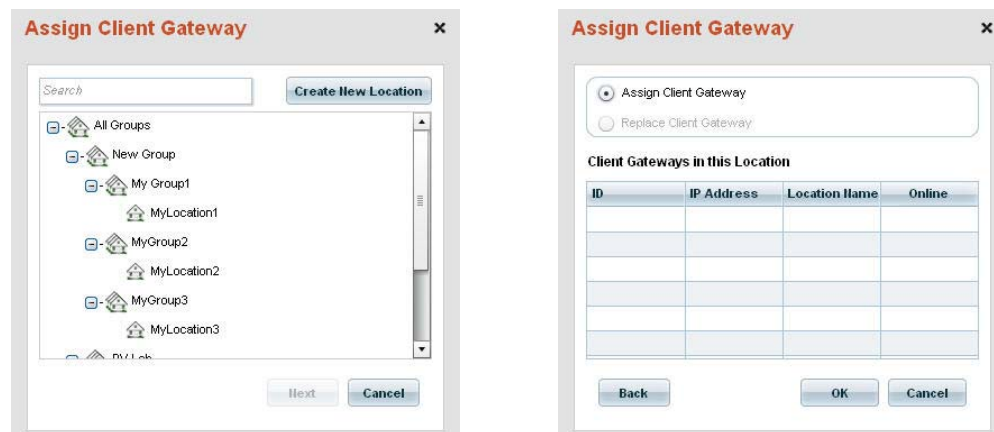

FIG. 154 Assign Client Gateway dialogs
3. Click the **Assign** button. This action invokes the first of two *Assign Client Gateway* dialogs (FIG. 154):
2. Select **Re-Assign Client Gateway**. This action invokes the *Assign Client Gateway* dialog (see FIG. 154 on page 98).